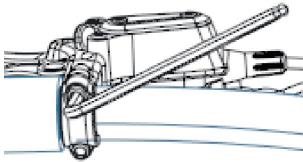

Figure 2-4 Brake lever Installation
- ① Secure the brake lever in position.
- ② Lightly tighten one fixing screw first, then lightly tighten the second screw. Return to the first screw and tighten both screws evenly (see Figure 2-4).
- ③ ★ Tightening torque for the disc brake lever fixing screws: 60 ~ 80 kgf·cm (52 ~ 69 lbf·in).
- ④ Pull and hold the brake lever to apply pressure. While the brake pads clamp the disc, tighten the disc brake caliper fixing screws.
- ⑤ Operate the brake lever several times to ensure proper braking function and check for any oil leakage.
- ⑥ ★ Tightening torque for the adapter fixing screws: 70 ~ 90 kgf·cm (60.8 ~ 78.1 lbf·in).